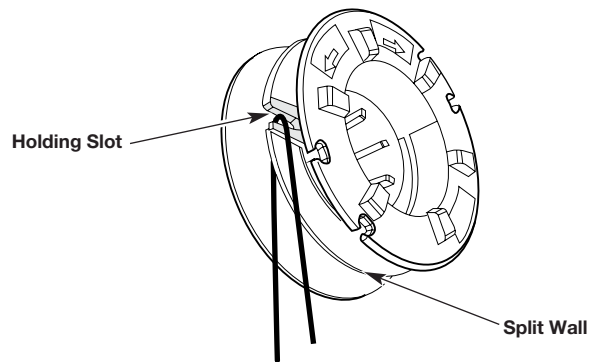

Fig. 15
4. Bend the line at the midpoint and insert the bend into the holding slot on the spool (Fig. 15).